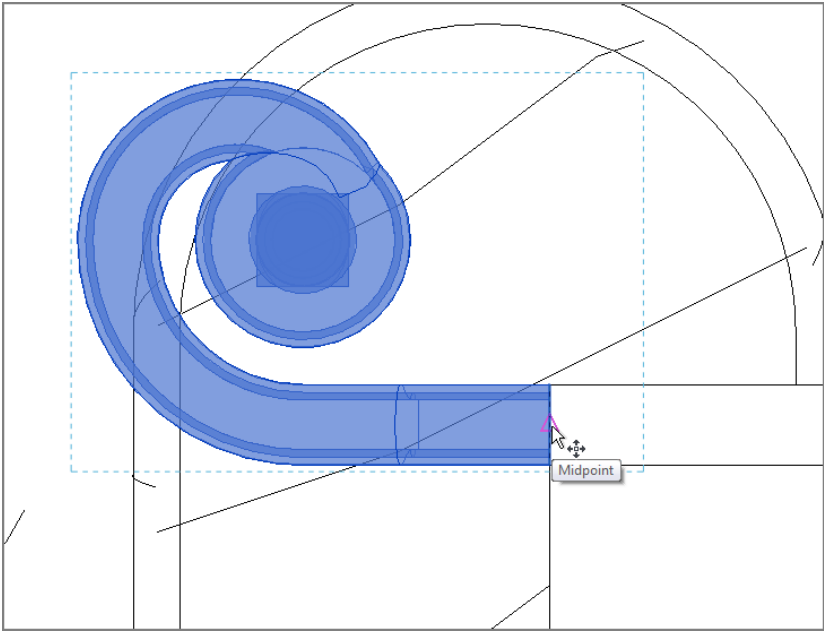

FIGURE 10.71: Moving the post to align with the stair railing
4. As you're placing the post, press the spacebar twice to flip it into the correct orientation, as shown in Figure 10.71.
5. Place it on the landing slightly away from the stair railing (see Figure 10.71).
9. Move the post from the midpoint of the post's end to the midpoint of the stair railing's end, as shown in Figure 10.71.